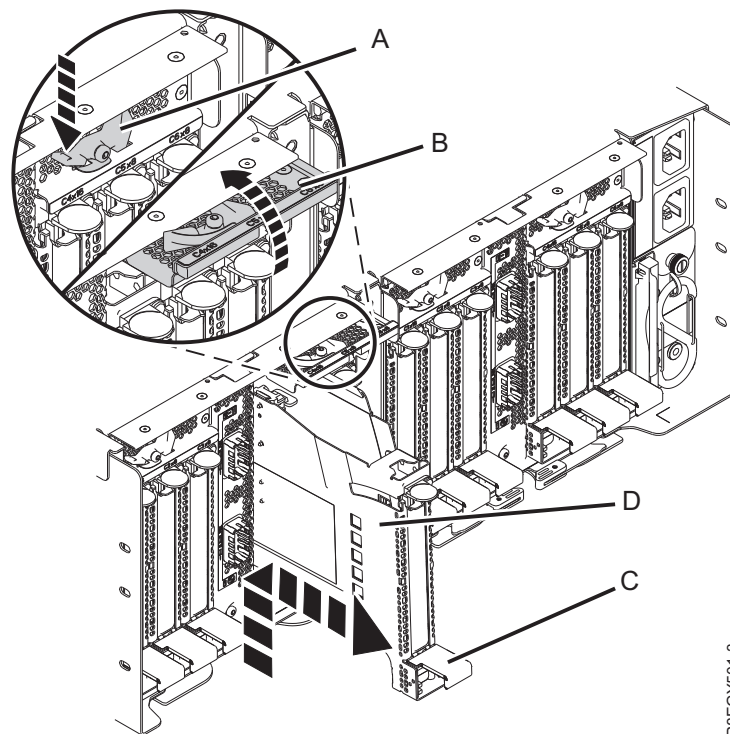

Figure 20. Removing a PCIe adapter cassette from the EMX0 PCIe3 expansion drawer
- a. Press the latch lever (A) at the target slot, as shown in Figure 20. This action will pivot the latch door up into the open position. See (B) in Figure 20.
- b. Lift up the cassette handle (C) and pull out the cassette (D) from its slot as shown in Figure 20.